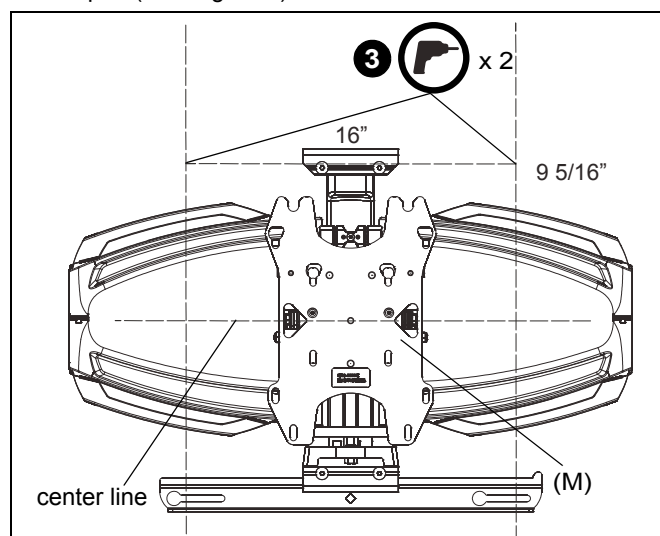

Figure 6
2. Measure 9 5/16" above desired center line and draw a horizontal line. (See Figure 6)
NOTE: Hold mount up to wall at desired mounting location if unsure about where the center line will be. The center line of the mount will coincide with the center line of the display. (See Figure 6)
3. Drill two 3/8" holes 16" apart and along the line drawn in the Step 2. (See Figure 6)